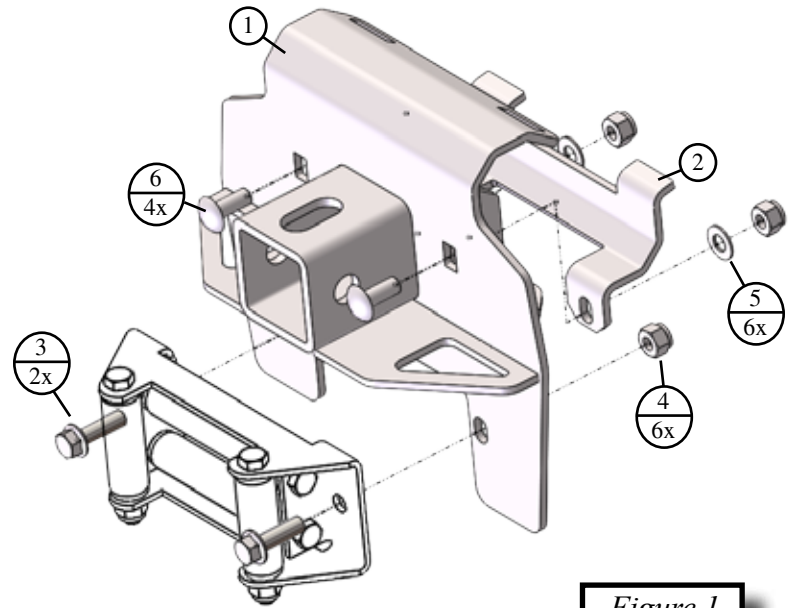

Figure 1
6. If you have a winch you will need to attach your roller fairlead to the receiver mount and bolt down using the two 3/8 flange bolts and nuts. Shown in Figure 1. (Skip to Step 8.)
7. Attach the lower part of the receiver to your bumper using the 3/8 carriage bolts (6) going through the factory bumper holes.
8. Tighten all of your hardware down to your bumper, making sure that your bracket (2) is tightened evenly.